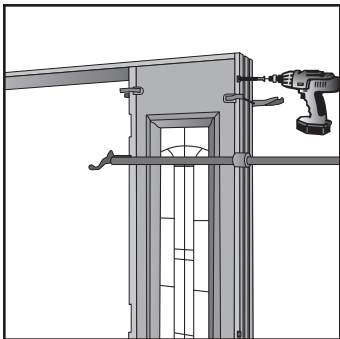

Fig. 17
- F. Anchor jamb leg to sidelight through back of rabbeted portion of jamb with 1½" screws at top, bottom and center. More anchor screws may be necessary on larger sidelights (**Fig. 17**).